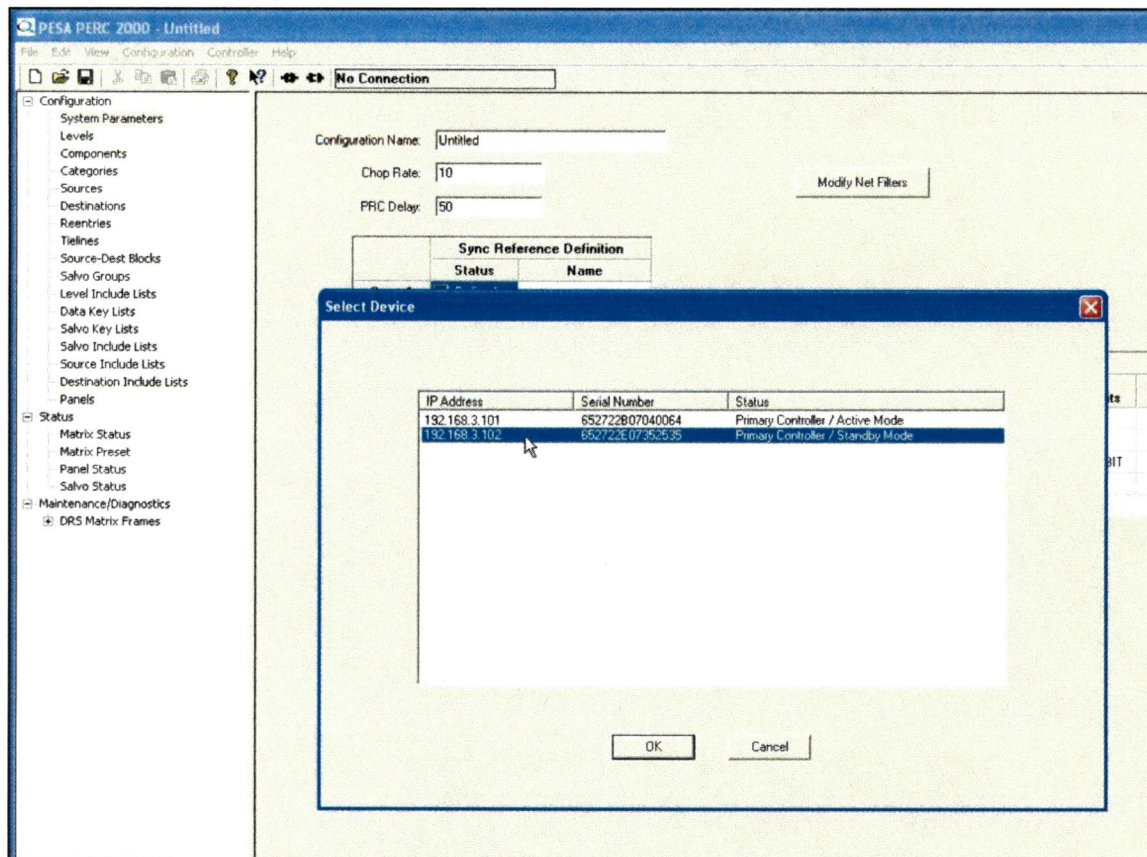

Figure 32. Select Device Window
- ☐ 11. Just as before, this will bring up the Select Device window. However, you will now notice that both P1K controllers are listed in the Select Device listing as shown in Figure 32. The controller in the PRI slot is listed by its newly programmed IP address: in our example 192.168.3.101. The second controller you just installed in the SEC slot will be listed with an IP address of the newly programmed address of the controller in the PRI slot, incremented by a value of one. In our example note that the second controller is listed as IP address 192.168.3.102. It is important that you realize that this address is not yet actually programmed into flash memory of the second controller. Do not make the mistake of thinking the address is already changed and bypass any steps of the procedure.
- ☐ 12. Move the cursor to the IP address corresponding to the controller loaded into the SEC slot. In our example you would move the cursor to the device listed as 192.168.3.102, as shown in Figure 32. Click on the entry to select it as indicated by the selection being highlighted. Once the device listing for the SEC controller slot is highlighted, click the **OK** button to continue.